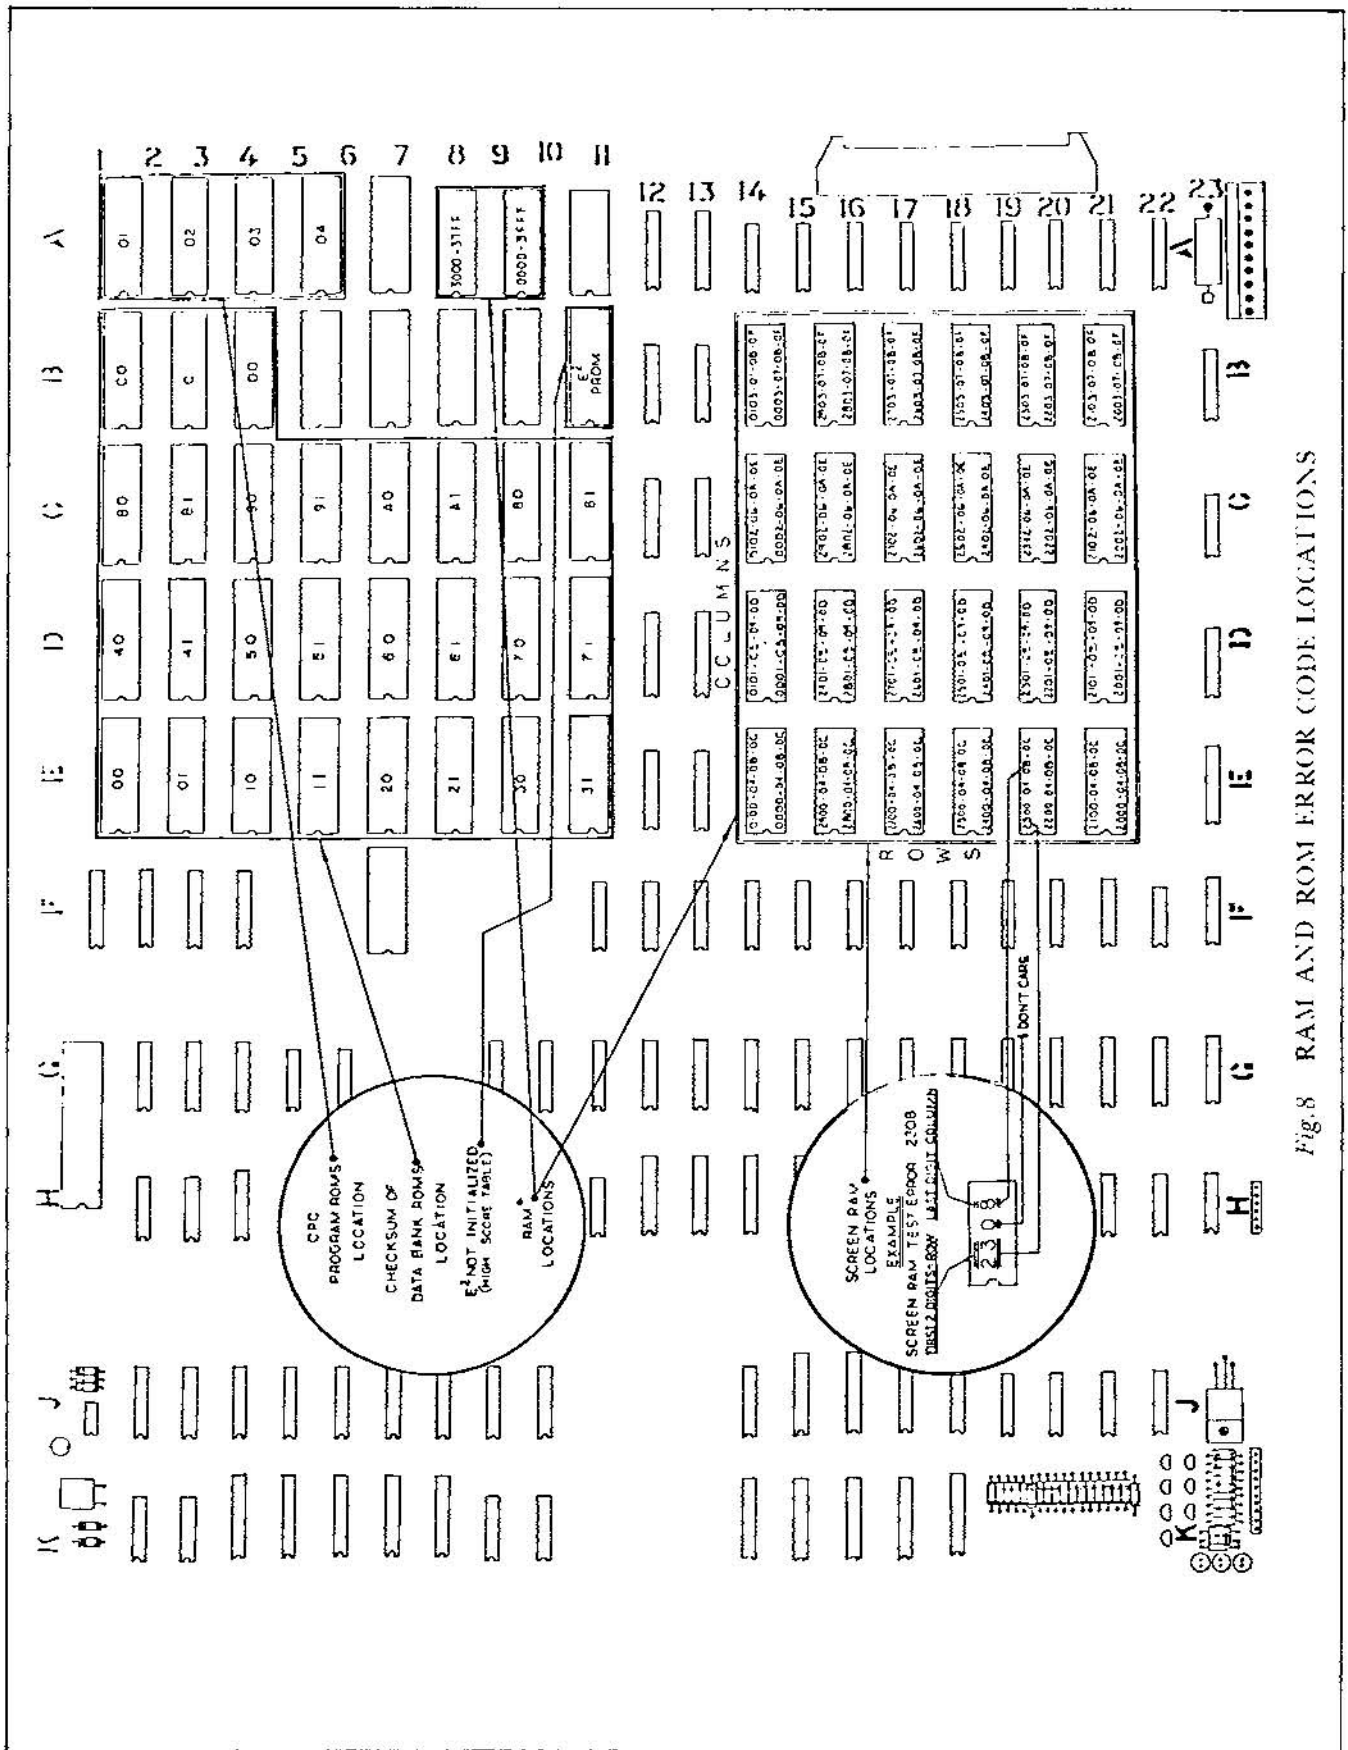

Fig. 8 RAM AND ROM ERROR CODE LOCATIONS
- * See Diagnostic Error Code FIG. 8 for suspected location of RAM or ROM.